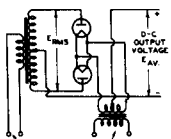
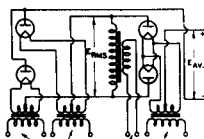
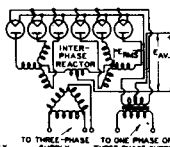

FIG. 1
FIG. 2
FIG. 4
Table 1 gives definite values of choke inductance (L) and condenser capacity (C) for choke-input-to-filter circuits which will keep the peak plate current below the recommended maximum, provided the average d.c. load current for any installation does not exceed the maximum load current figures given in the table. Values of (L) and (C) are based on a 60-cycle a.c. voltage supply. It is important that a good quality input choke be used so that its inductance will not drop below the required minimum value under full load-current conditions. The capacitance (C) given in the table is small enough to prevent excessive surges when power is first applied to the circuit and yet is large enough to give adequate filtering. If the inductance (L) is increased, it is permissible to increase the capacitance in the same proportion. In a two-section filter with two inductances of unequal value, the larger inductance should be placed next to the rectifier tubes. With such an arrangement, the maximum value of each capacitance should be determined on the basis of the value of the inductance preceding it. The first three circuits (figs. 1, 2 and 3) of Table 1 will have a ripple voltage of less than 5% when used with a two-section filter having a minimum of inductance and the corresponding maximum of capacitance. For most purposes, this is adequate filtering. Similarly, the next two circuits (figs. 4 and 5) will give a ripple voltage of less than 1%. The last set of conditions in the table applied to a single-phase, full-wave system using two tubes with condenser input to the filter. It will be noted that the maximum d.c. output voltage available at the filter is 25% higher than for the choke-input system (fig. 1), but the permissible d.c. load current is 50% less. Similarly, these same percentages will hold for the single-phase, full-wave system using four tubes. (fig. 2). For any of these circuits, better filtering may be obtained with inductance larger than the minimum given in the table. With the use of larger inductances, the corresponding capacitances may be increased by the same per cent as the inductances to give still better smoothing. The use of additional sections in the filter, of course, is another way of obtaining greater smoothing.